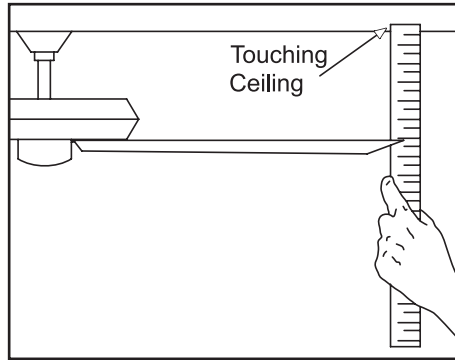

Figure 17
2. Most fan wobble problems are caused when blade levels are unequal. Check this level by selecting a point on the ceiling above the tip of one of the blades. Measure from a point on the center of each blade to the point on the ceiling. Measure this distance as shown in Figure 17. Rotate the fan until the next blade is positioned for measurement. Repeat for each blade. Measurement deviations should be within 1/8". Run the fan for 10 minutes.